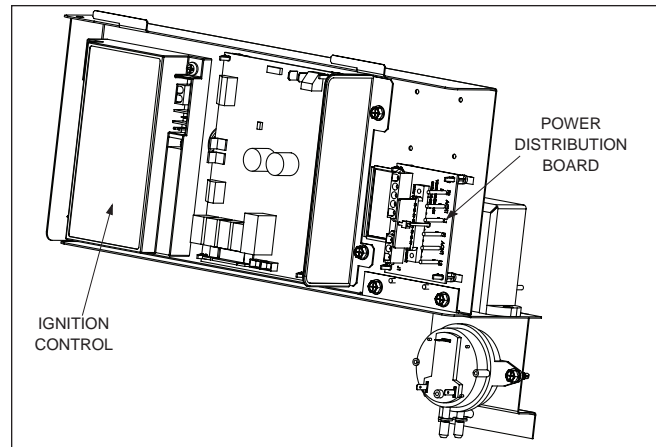

Figure 20. Location Of Power Distribution Board
1. Identify the power distribution board on the heater. It is located to the right of the ignition control on the raceway (see Figure 20).